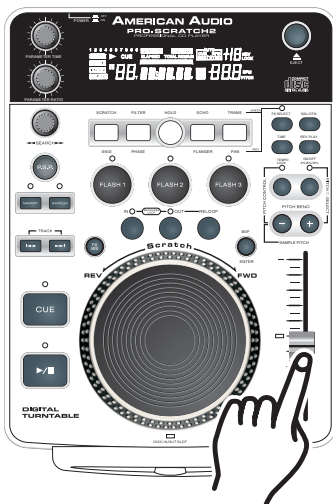

Figure 43
The (+) PITCH BEND BUTTON (28) will increase track playback speed and the (-) PITCH BEND BUTTON (29) will decrease track playback speed. The extent to which the speed changes is proportionate to the amount of time the button is pressed. For example, if the (+) PITCH BEND BUTTON (28) is held down continuously as in figure 43, the disc speed will increases and will continue to increase until it reaches a maximum of 100% speed gain. When you release the (+) PITCH BEND BUTTON (28) the disc speed will automatically return to it's previous set speed.